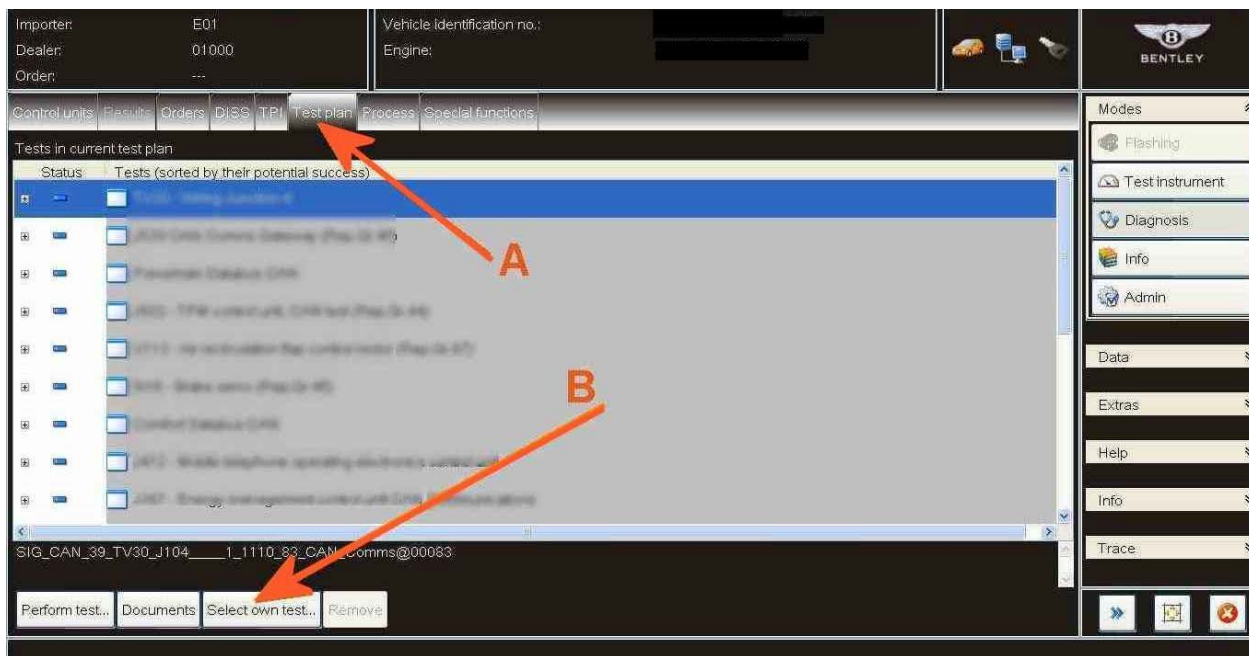
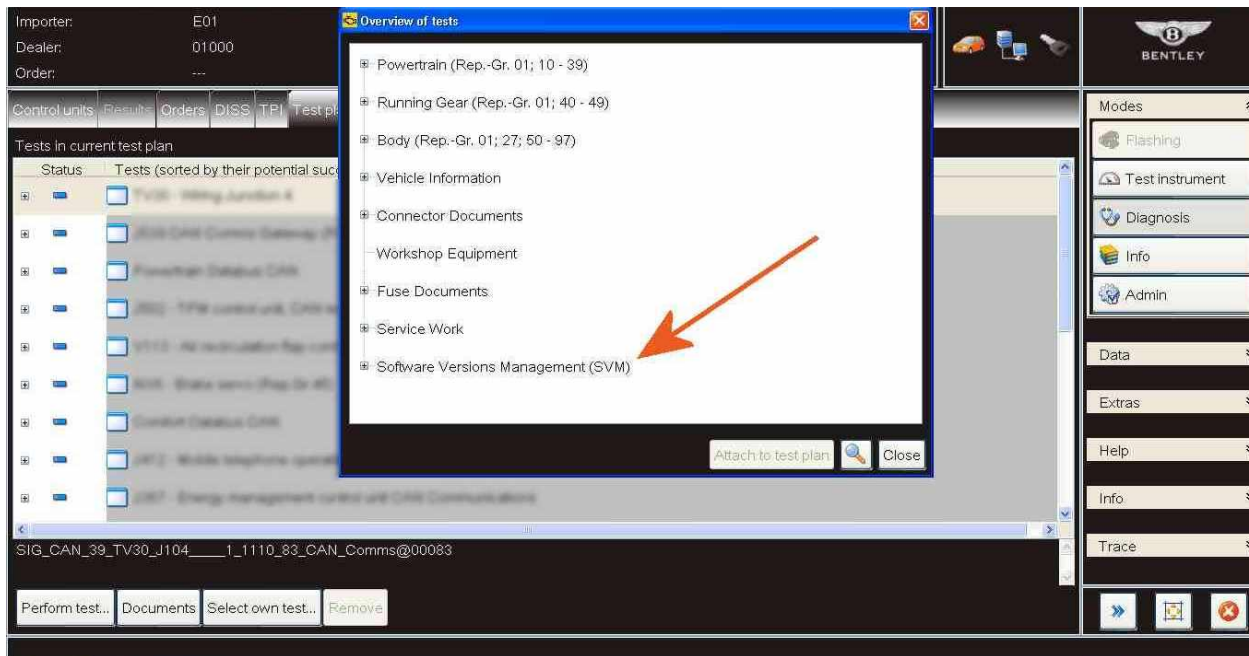
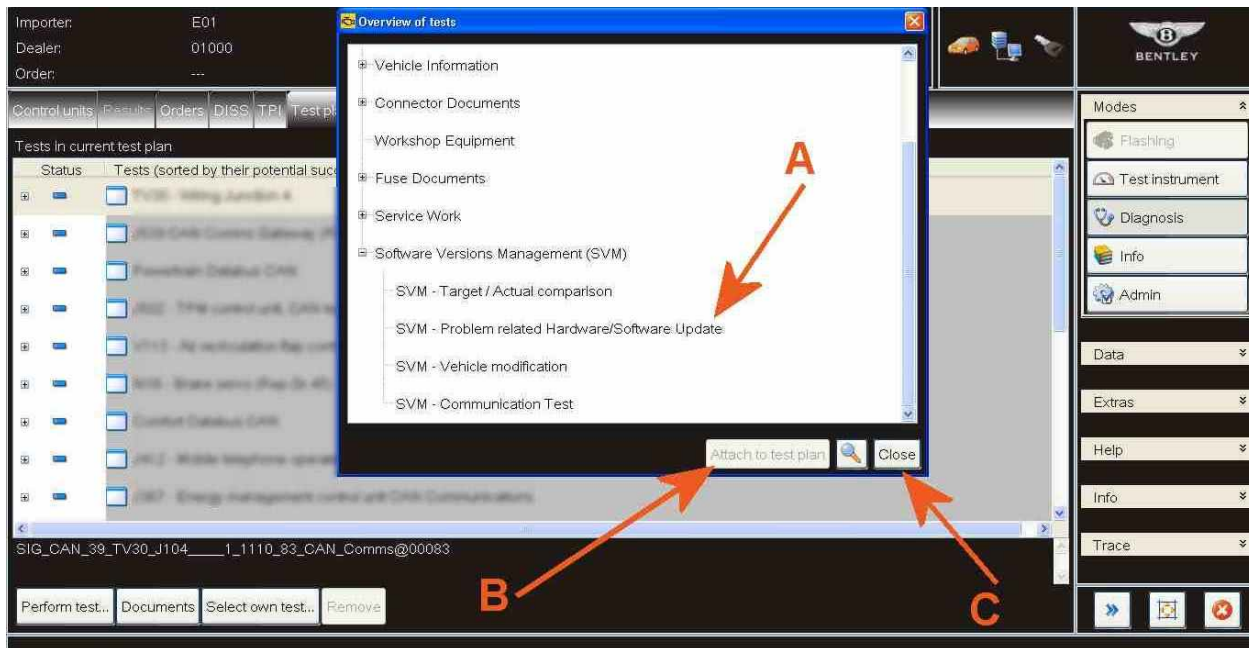

Figure 5
Figure 6
Figure 7
-Once the Guided Fault Finding is complete, Select – Test plan as shown in Figure 5 Point A - Select own test as shown in Figure 5 point B, (the overview of tests screen will now appear as shown in Figure 6)
-Referring to Figure 6 (Overview of tests screen) select + Software Version Management (SVM) a drop down box will now appear as shown in Figure 7
-Referring to Figure 7 – Select SVM – Problem related Hardware/Software Update (Point A)